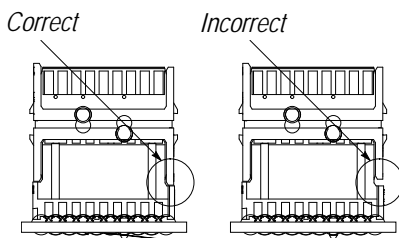

Figure 4
2. Lower the mezzanine connector onto the backplane connector so that the wafers enter between the columns, then seat the connector until the housing sits on the housing of the backplane connector. See Figure 4. Seat additional mezzanine connectors in the same manner.